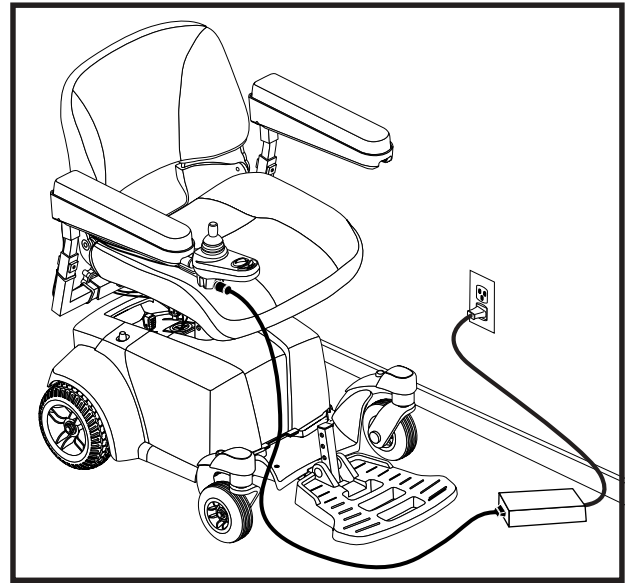

Figure 16. Battery Charging
1. Position your power chair next to a standard electrical outlet. See figure 16.
3. Plug the off-board charger into the off-board charger socket on the controller. See figure 16.
4. Plug the off-board charger into the electrical outlet. See figure 16.